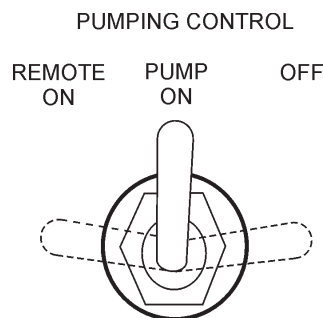

Figure 21. Pumping Control Switch (ON)
9. To begin pumping concrete. Place the pumping control switch (Figure 21) in the **ON** position
1. Place the pumping control switch in the **OFF** position (Figure 21).